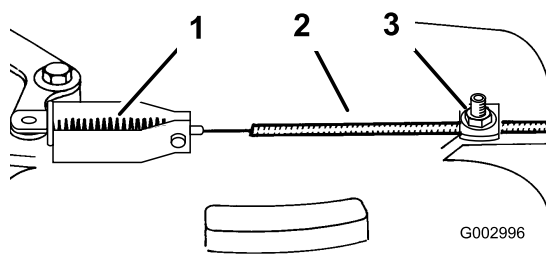

Figure 35
3. Loosen the cable clamp screw until the brake cable conduit slides (Figure 35).